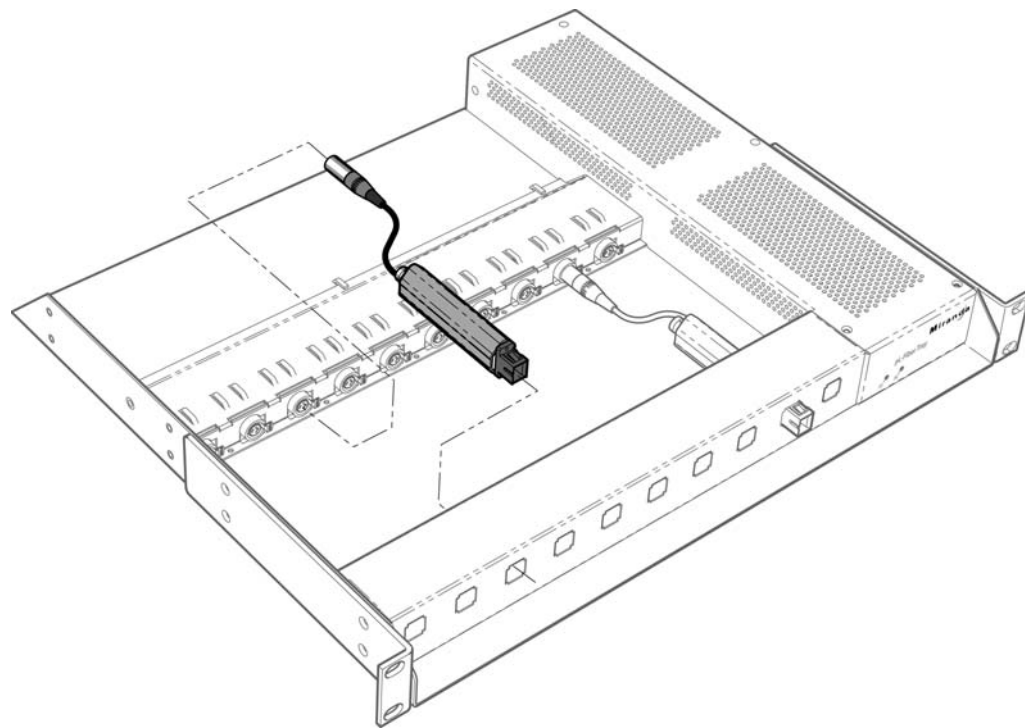

Figure 3.2 Fiber optic picolink installation
2. Install up to 10 fiber optic picoLink products as shown in Figure 3.2. Insert the fiber optic picolink from the rear into the picolink frame and push until the connector spring bracket snaps in place. Connect the DC plug of each picolink into a DC power connector of the pL-Fiber Tray power frame.